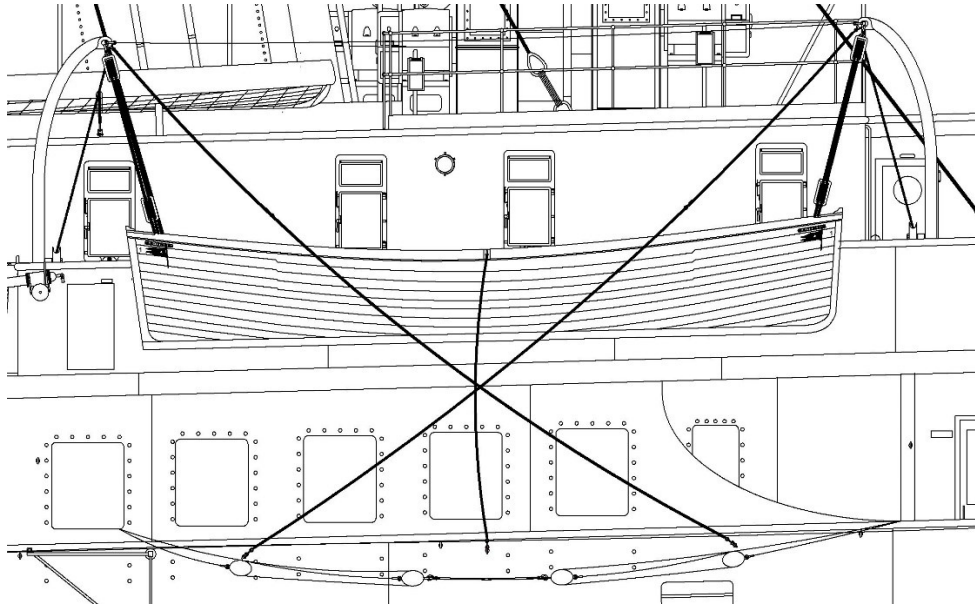

Figure 6
Step 2: The boat is manned and is lowered slightly so that the gripes are slack as shown in Figure 6.